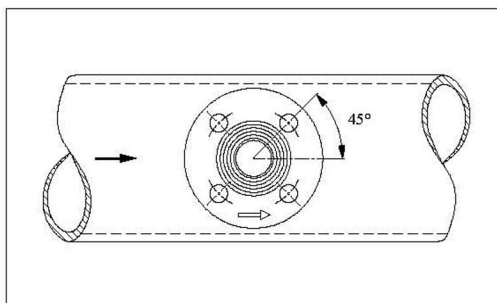

Fig. 11
Using flanges with eight bolt holes, the welding stud must be welded on so that the bolt holes in the flange form an angle of 22.5° with the pipe axis (see figure 11).
3. Tack the mounting stud {1} (supplied with the Flo-Tap) onto the pipe leaving a clearance of 1-2 mm. The bolt holes of the flange must be at 45° angles to the pipe axis (see Fig. 11).